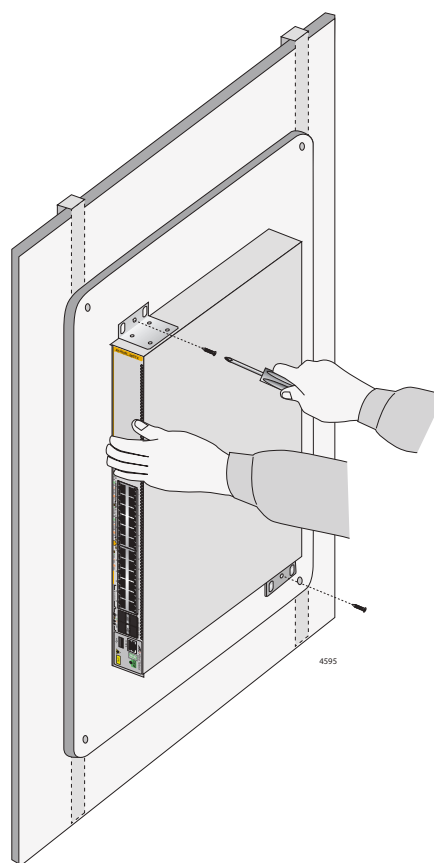
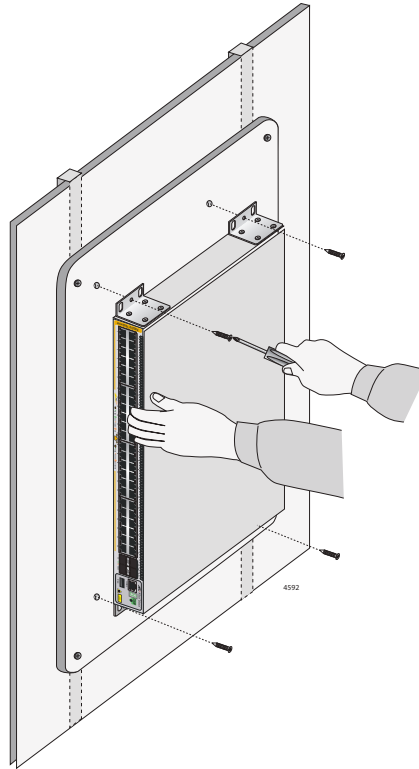

Figure 33. Securing the AT-x530L-28GTX and AT-x530L-52GTX Switches to the Plywood Base
Figure 34. Securing the AT-x530L-28GPX and AT-x530L-52GPX Switches to the Plywood Base
3. After attaching the brackets, have another person hold the switch on the plywood base on the wall while you secure it with the M4x32.3mm screws included with the switch. Refer to Figure 33 on page 78 for the AT-x530L-28GTX and AT-x530L-52GTX switches or Figure 34 on page 79 for the AT-x530L-28GPX and AT-x530L-52GPX switches.
- ☐ Position it so that the front panel is facing up, left or right. Refer to Figure 34. Do not install it with the front panel facing down.
- ❑ Position it so that the front panel is facing up, left or right. Refer to Figure 34 on page 79. Do not install the switch with the front panel facing down.